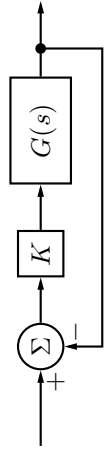

Figure 3.15a
3.15 A system  $G(s)$  is controlled using feedback with a proportional controller according to Figure 3.15a.